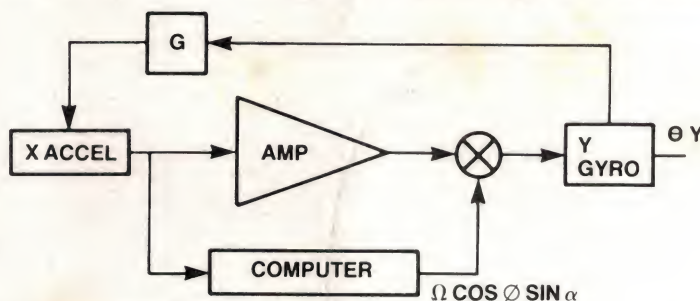

Figure 12. System alignment servo loops.
Fine alignment, together with gyro-compassing circuit configuration, is shown in Figure 12. The top feedback loop identifies levelling. This involves setting the pendulums of each accelerometer to the null position, each pendulum at 90° with respect to the other two. This is implemented by connecting the X-axis accelerometer output, via a function generator (G), to the Y-axis gyro and vice-versa. When the errors between the X and Y axes are zero, the Z or gravity axis is automatically in alignment. This provides one of the unknown vectors; gyro-compassing provides the other.
The bottom feedback loop in Figure 12 identifies the gyro-compassing circuit configuration. If left uncorrected, the platform Y-axis gyro would tilt under the influence of the Earth's spin vector. The angle of tilt is called the 'wander angle' or alpha (α). The system computer produces a set of acceleration